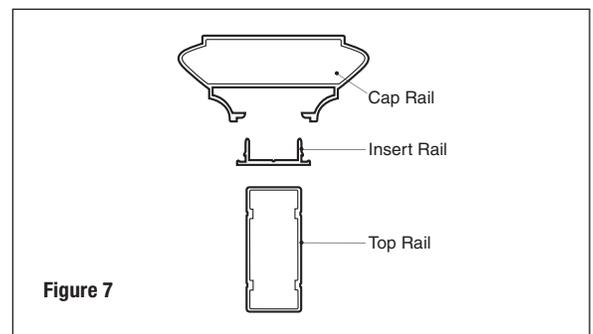

Figure 7
**Step 13 (optional)** Cut the cap rail and cap rail insert to length. (Note: the cap rail will be 1/2" longer than the top and bottom rails.) Center the cap rail insert on top of the top rail and pre-drill seven 1/8" pilot holes. Attach the cap rail insert to the top rail with seven 1/2" long screws. Apply exterior-grade metal construction adhesive to the mating edges of the insert rail. Position cap rail over the insert rail (Figure 7). Install by pressing down, starting from one end and working to the other until the cap rail snaps into place. Gently tap with a rubber mallet if needed.